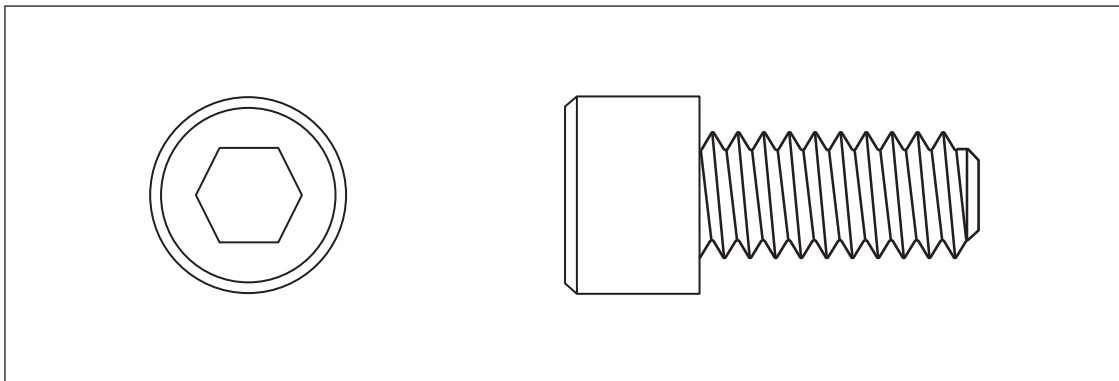

Figure 20
- d. Figure 20 shows a sketch of a cap screw that will be used in the M14 \times 2 thread. Label the sketch to show the M14 dimension and the 2 dimension. 2 marks